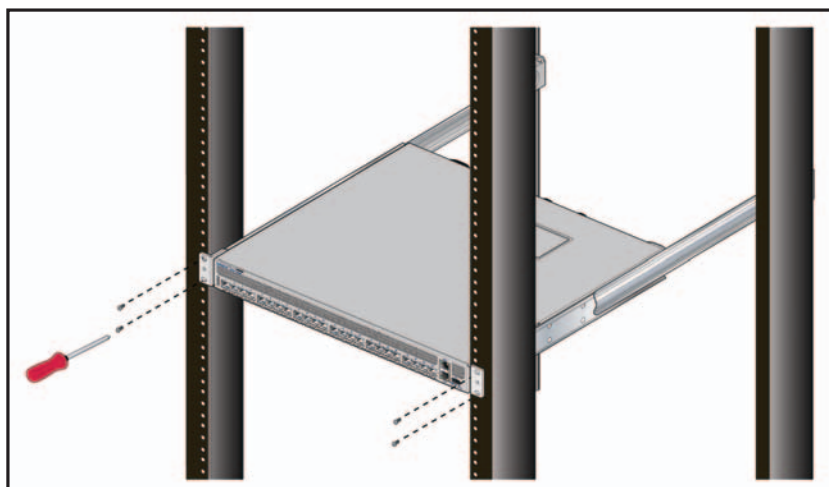

Figure 3-13: Attaching the Switch to the Rack Posts
- Step 5** Attach the bracket flanges to the rack posts (Figure 3-13 on page 11).